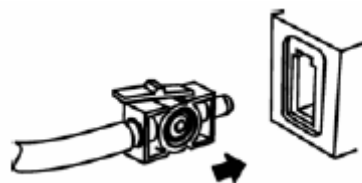
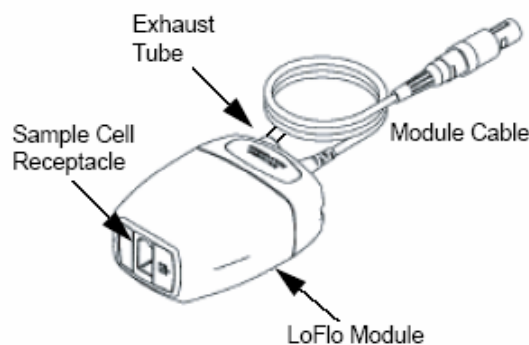

Fig.5-9-1
Fig.5-9-2
1) Insert the LoFlo sample cell into the LoFlo sample cell receptacle. A "click" will be heard when the sample cell is properly inserted. (Fig.5-9-1, Fig.5-9-2)